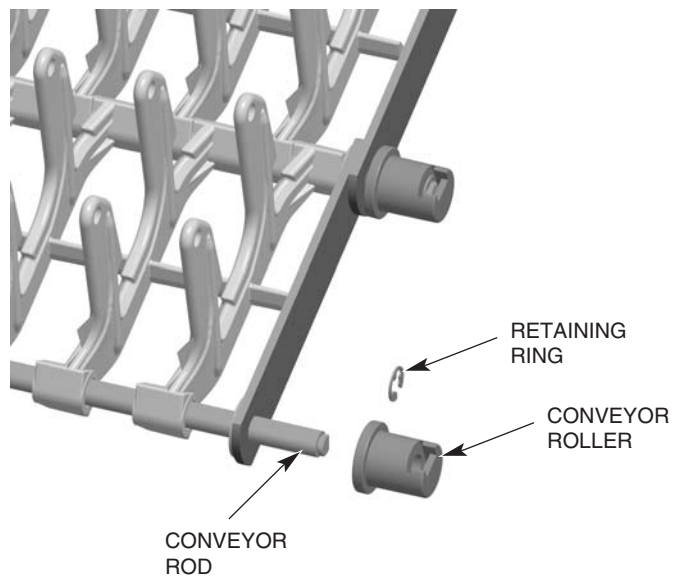

Fig. 37
**NOTE:** Each time a conveyor roller is installed or replaced, a NEW retaining ring (Fig. 37) must be used.